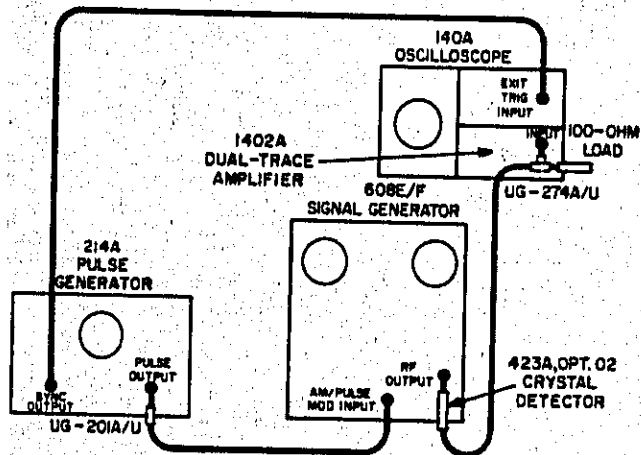

Figure 5-9. Pulse Modulation Test Setup
- Connect signal generator in test setup illustrated in Figure 5-9.